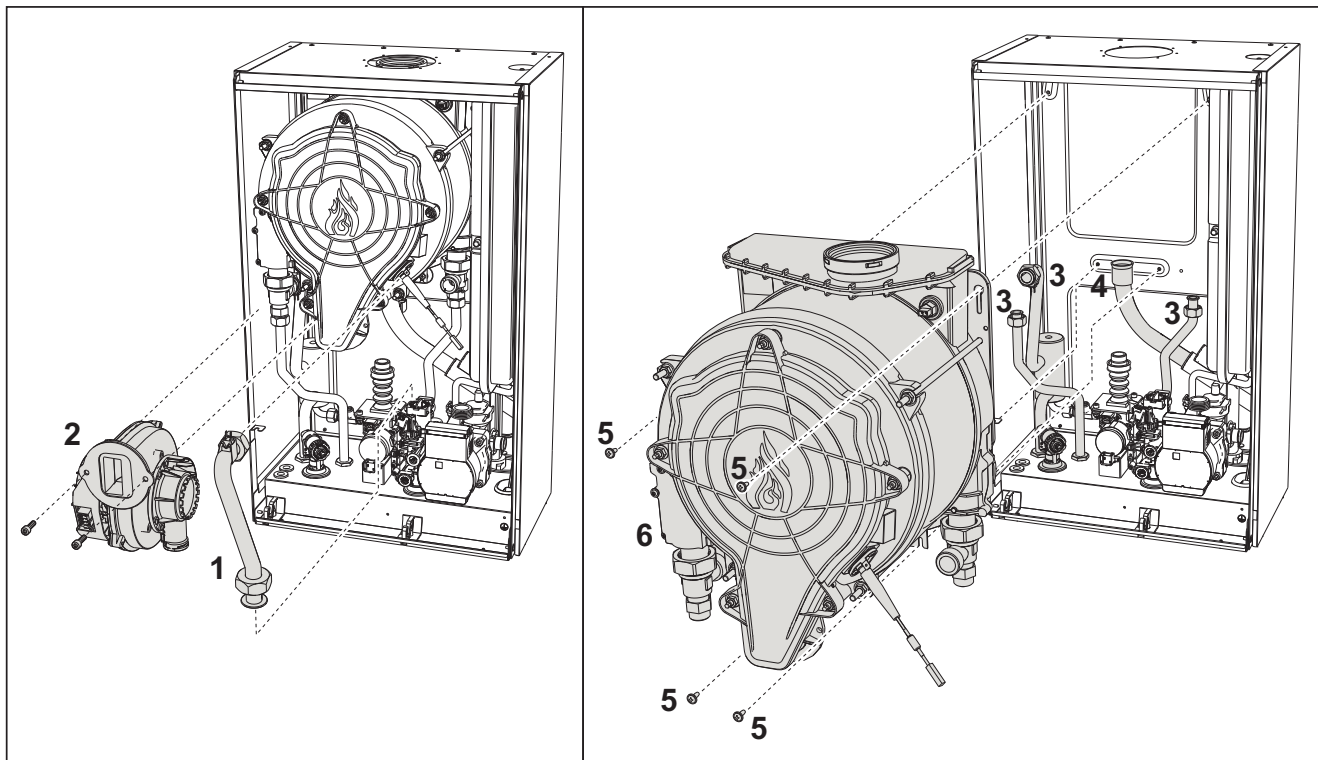

fig. 40- Main exchanger
- Remove the 2 **top screws "5"** securing the exchanger to the frame (fig. 40)
- Loosen the 2 **bottom screws "5"** securing the exchanger to the frame (fig. 40)